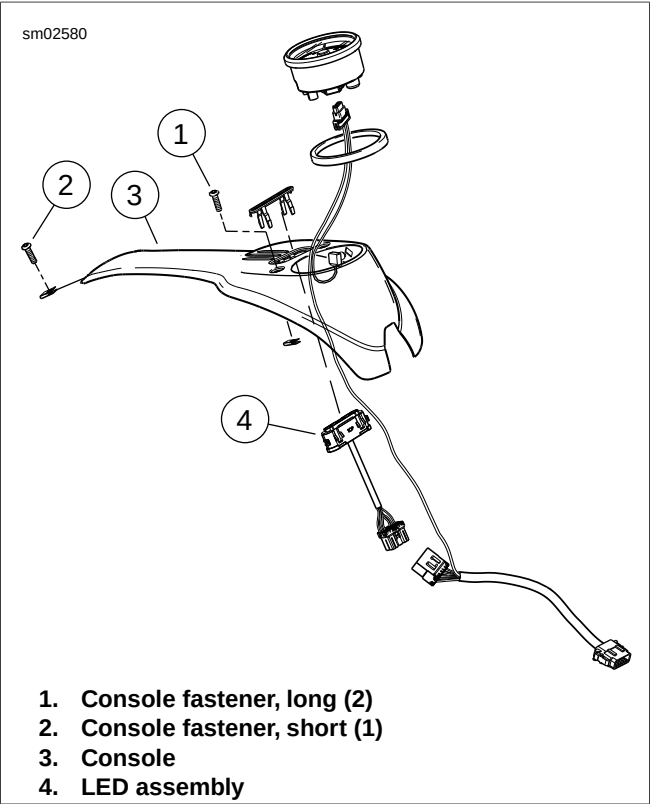
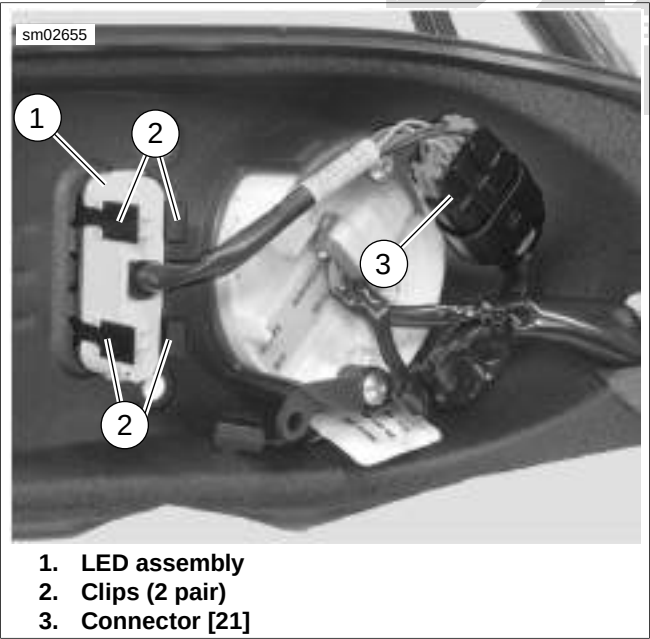

Figure 7-62. Indicator Lamps: FXDB
Figure 7-63. FXDB Connector [21]
1. See Figure 7-62. Remove long console fasteners (1) and short console fastener (2).
2. Raise console (3) from fuel tank. Place shop rags on tank and flip console over to expose underside.
3. See Figure 7-63. Release clips (2) to free LED housing (1) from console.
4. Disconnect connector (3) [21] from LED assembly.
1. See Figure 7-63. Install LED assembly (1) into console.
2. Engage clips (2) into tabs on LED assembly.
3. Connect connector (3) [21] to main wiring harness.
4. See Figure 7-62. Place console (3) in position.
5. Install long console fasteners (1) and short console fastener (2). Tighten fasteners to 18-24 **in-lbs** (2.0-2.7 Nm).